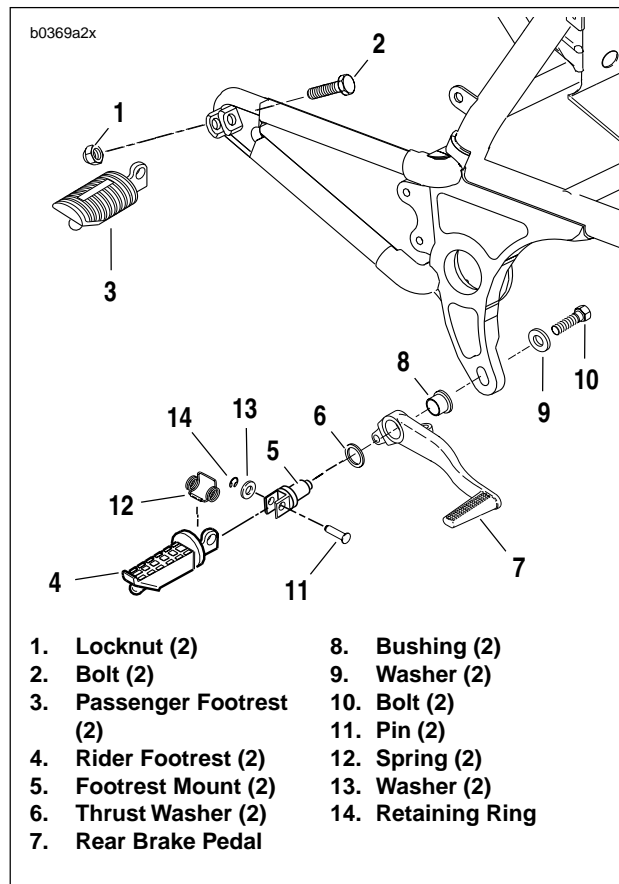

Figure 2-94. Footrests, Right Side
- See Figure 2-94. Remove locknut (1), bolt (2) and passenger footrests (3) from frame.
- Remove retaining ring (14) and washer (13) from pin (11).
- Hold hand over spring (12) and remove pin (11), spring (12) and footpeg (4) from mount (5).
- See Figure 2-94. Remove bolt (10) and washer (9) to detach footrest mount (5) from frame.
- Slide bushing (8), pedal and thrust washer (6) off footrest mount.
- See Figure 2-94. If removed, install passenger footrests.